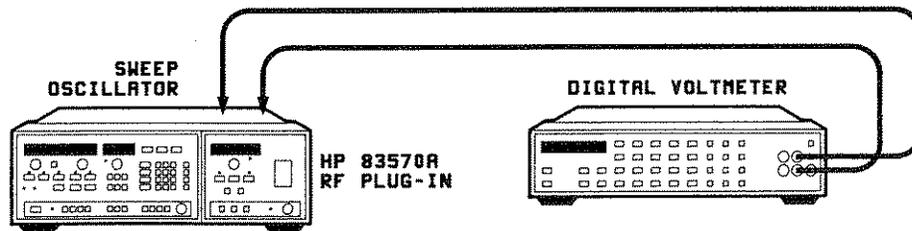

Figure 5-4. -10V Reference Adjustment Test Setup
1. Connect the equipment as shown in Figure 5-4. Allow the equipment to warm-up for 30 minutes.